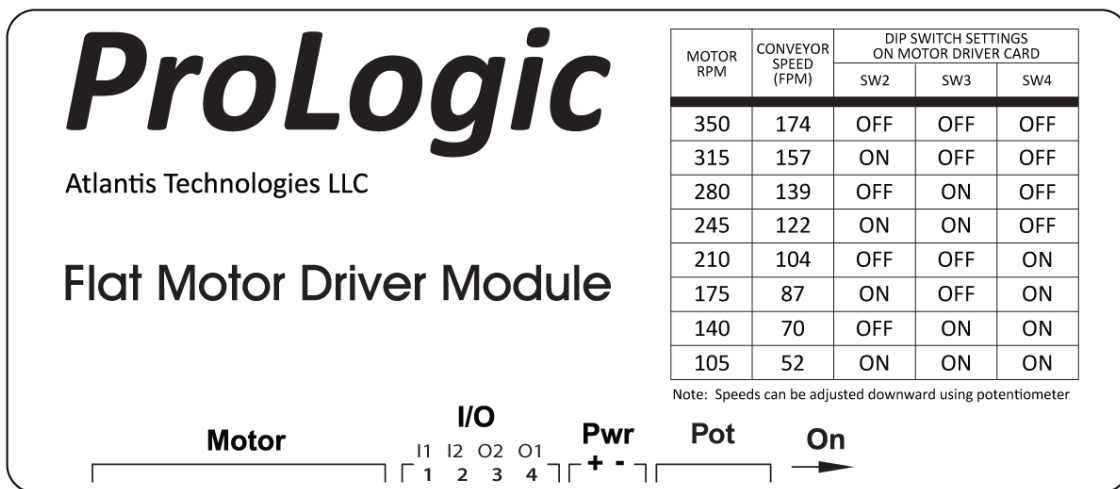

FIGURE 13.1
- 12) Adjust motor speed if applicable (See Figure 13.1).
Each zone includes a motor driver card that controls the speed of the motor. See Figure 13.1, below.